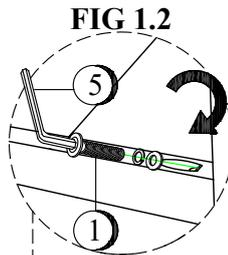

FIG 1.2
Step 1.2 Attach all legs (B,C,D,E), insert the JCBC Bolt with washer (1) into the pre-drilled holes on the Cross bar (I, J) into the Leg, tighten the JCBC Bolt with washer with Allen Key provided as shown on FIG 1.2